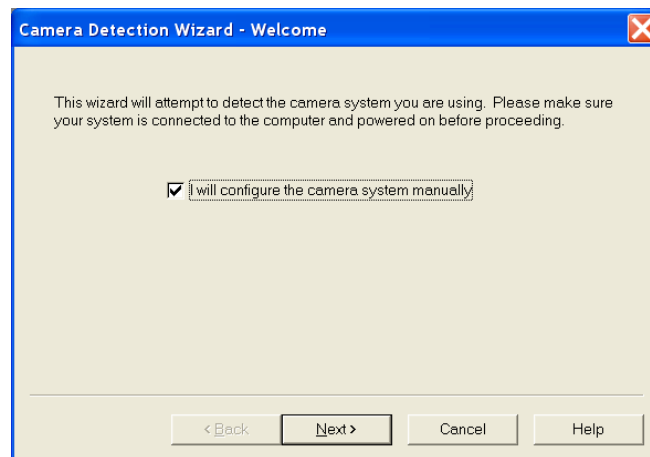

Figure 11. Camera Detection Wizard - Welcome (Manual selected) dialog
2. On the **Welcome** dialog (Figure 11), select the check box and click on **Next**.